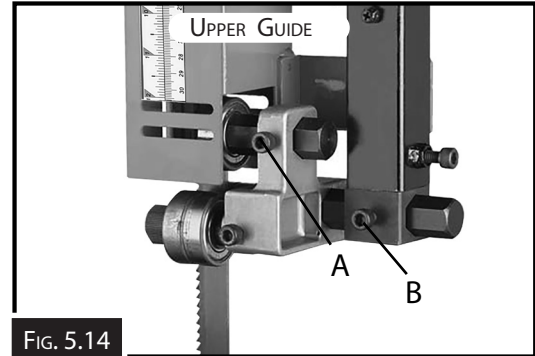

FIG. 5.14
3. Familiarize yourself with the support bearing controls shown in Fig. 5.14
4. Loosen the socket head cap screw on the support bearing adjustment shaft. (A in Fig. 5.14)